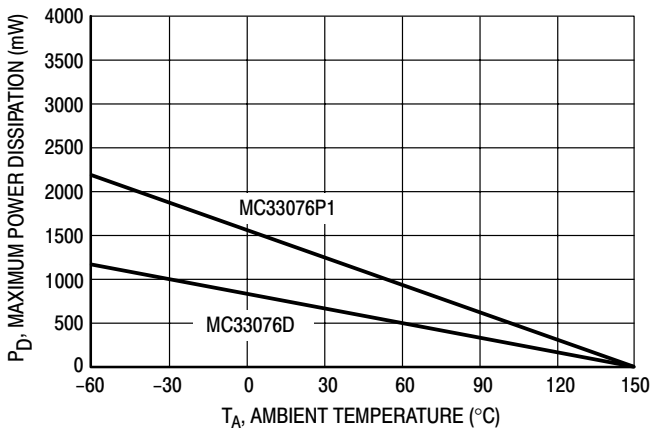

Figure 2. Maximum Power Dissipation versus Temperature
2. **Power dissipation must be considered to ensure maximum junction temperature (T_J) is not exceeded** (see power dissipation performance characteristic, Figure 2). See applications section for further information.